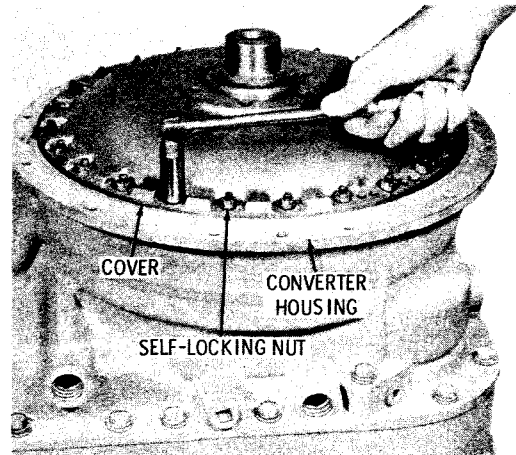

Fig. 5-8. Removing torque converter drive cover nuts
(3) Remove the 24 self-locking nuts that retain the torque converter drive cover (fig. 5-8).